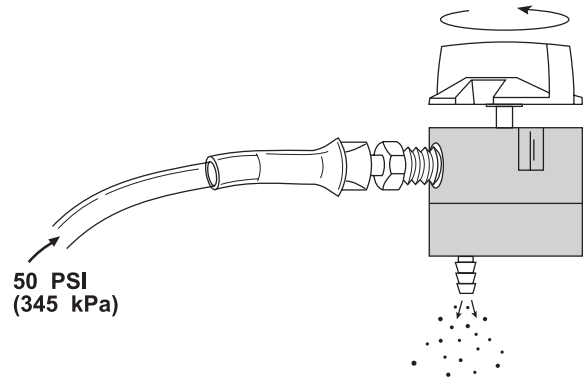

Figure 28: Backflushing the FCV
- 3) Slowly rotate the valve knob through all flow settings (Figure 28). Gas flow should be audible at each flow position, indicating that the appropriate orifice is open.